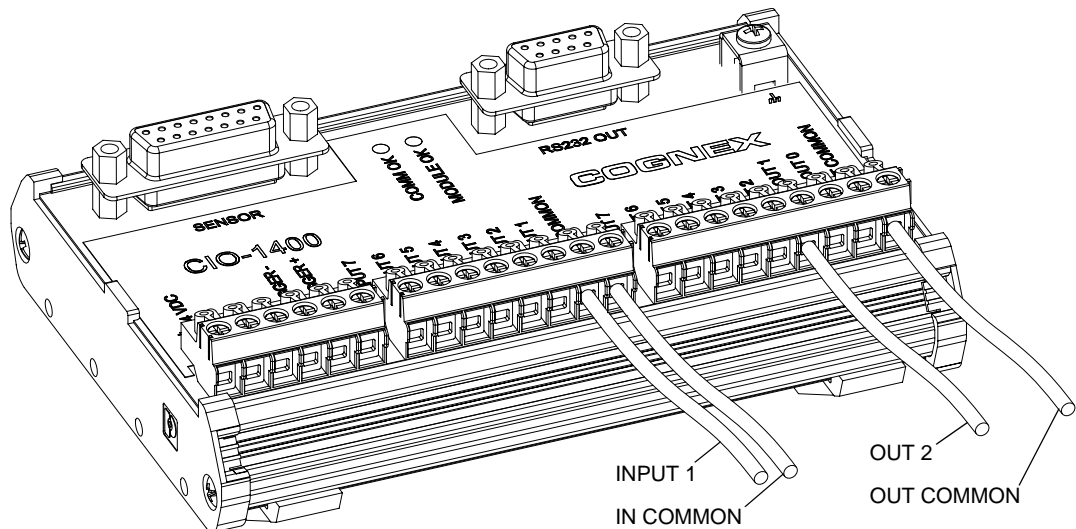

Figure 2-1: Connecting I/O Wires
4. Insert the signal and ground wire leads from remote I/O devices into the appropriate positions on the terminal block, as shown in Figure 2-1.